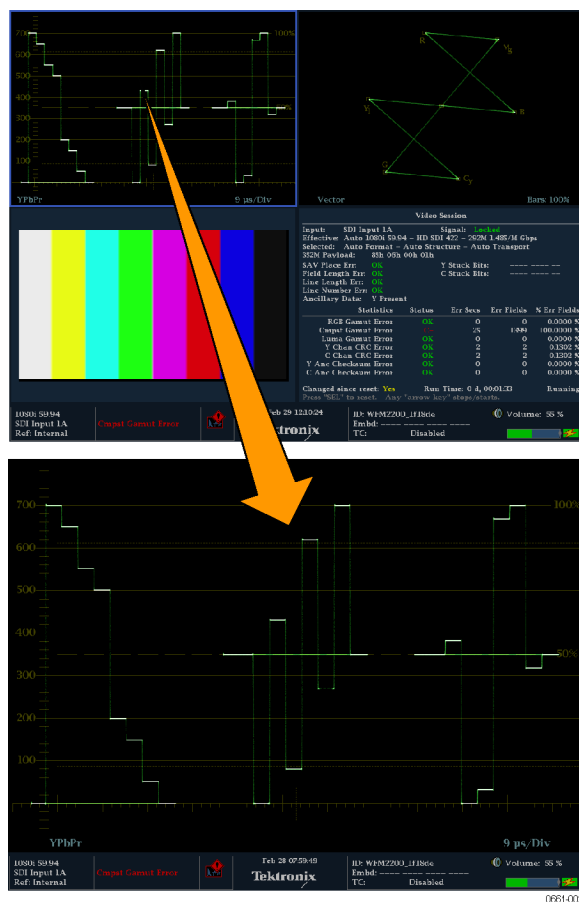

Figure 4: Changing from 4-tile to full-screen view
- Press and hold the DISPLAY SELECT button to toggle between 4-tile and full screen mode. The selected (active) tile in 4-tile mode is the tile expanded to full screen mode. (See Figure 4.)